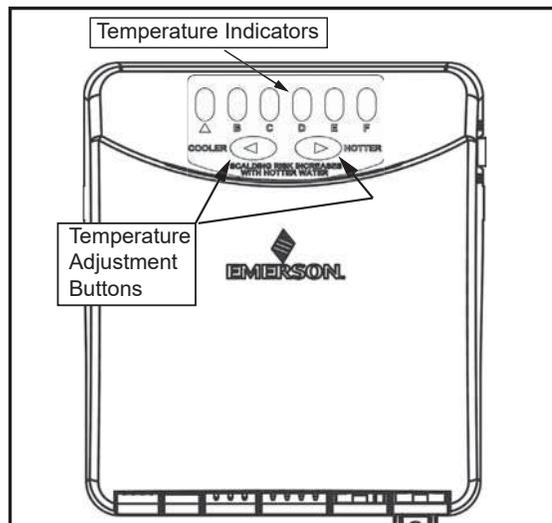

Figure 30. Adjusting the Thermostat
Mixing valves are available at plumbing supply or hardware stores. See *Figure 8* (page 14). Follow manufacturer's instructions for installation of the valves. Before changing the factory setting on the thermostat, see *Figure 30*.
1. "Wake Up" the temperature indicators by holding down both "COOLER" and "HOTTER" temperature adjustment buttons at the same time for one second. See *Figure 30*. One or two of the temperature indicators will light up. These indicators will only remain on for 30 seconds if no further buttons are pressed. After 30 seconds the control will go back to "Sleep" mode.